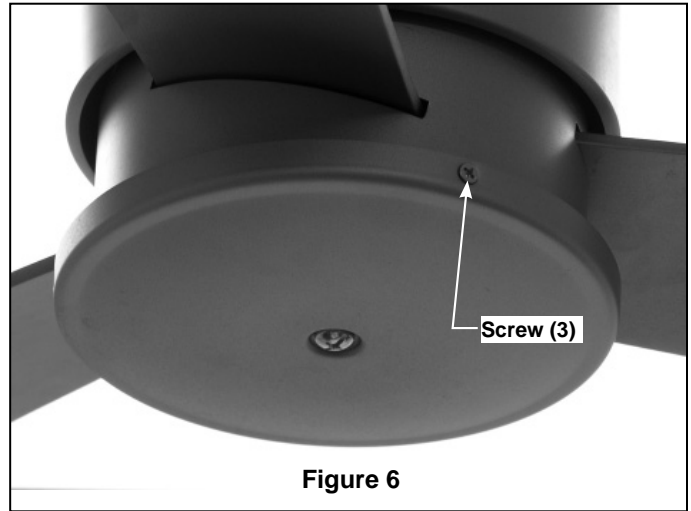

Figure 6
6. Assemble the Switch Cup Cover onto the assembled Switch Cup Support Plate with three screws provided. (Figure 6)